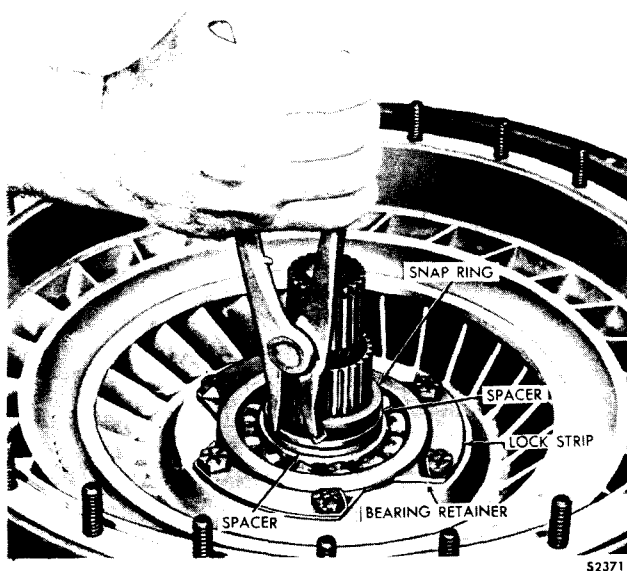

Fig. V-12. Removing snap ring from ground sleeve
(3) Remove a snap ring, and two splined spacers from the torque converter ground sleeve (fig. V-12).
(4) Flatten the corners of the three lock strips. Remove six self-locking bolts and the lock strips (fig. V-12). Do not remove the bearing retainers.